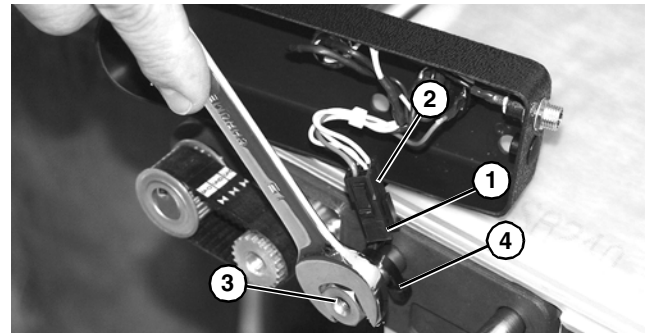

Figure 75
3. Unplug motor connector (Figure 75, item 1) from cover wiring connector (Figure 75, item 2).
4. Remove hex standoff (Figure 75, item 3) and remove tie strap (Figure 75, item 4) and wiring harness from hex standoff.